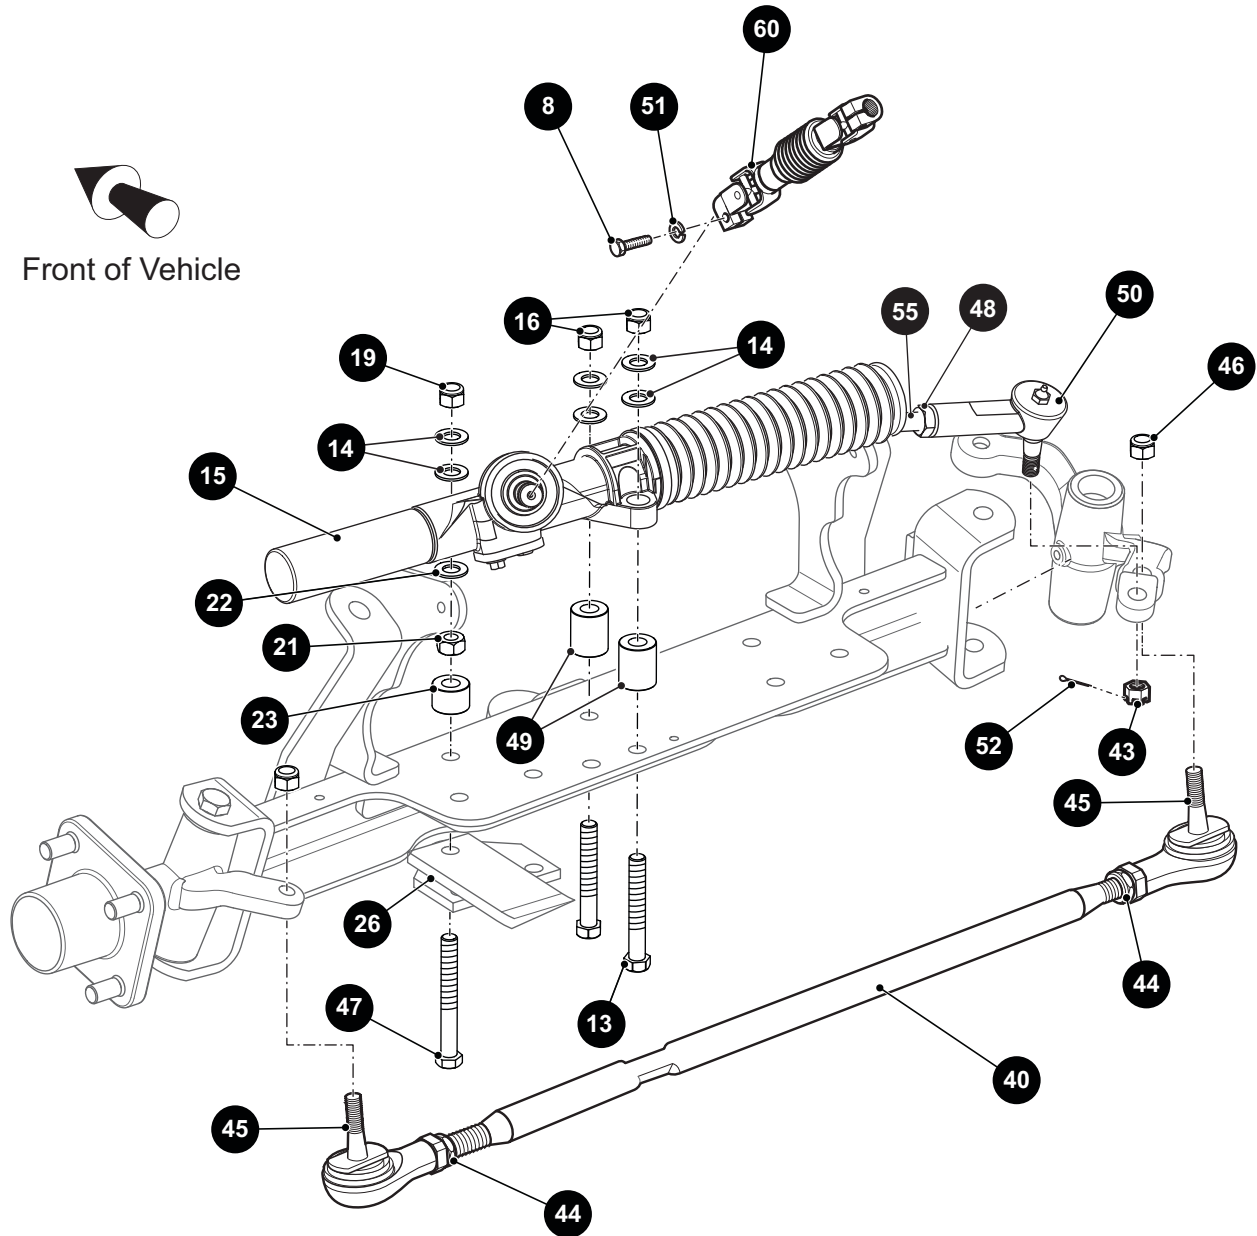
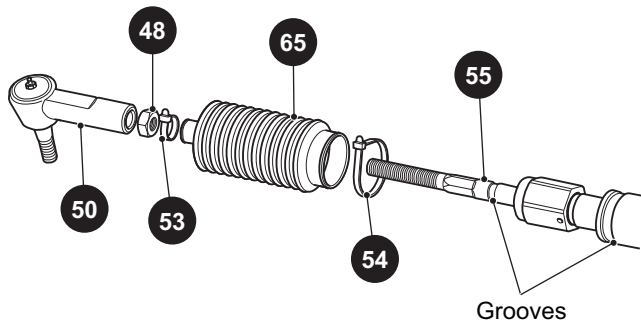

Figure 11 Steering Components
Figure 14 Bellows Replacement
- Remove the cotter pin (52) and loosen the castellated nut (43) until the rack ball joint (50) threads are protected (Ref. Figure 11).
- Remove the castellated nut (43) from the ball joint (50).
- Remove the ball joint (50) from the spindle arm.
- Cut away the wire ties (53, 54) from the bellows (65) and pull the bellows back to expose the threads on the rack extension (55) (Ref. Figure 14).
- Grasp the tie rod (40) at the ball joints (45) and check for any vertical motion which would indicate a worn condition and require replacement (Ref. Figure 11).
- Remove the rack ball joint (50) and jam nut (48) from the rack extension (55) (See Rack Ball Joint Replacement on page 31).
- Cut the wire ties (53, 54) and slide the bellows (65) off of the rack extension (Ref. Figure 14).
- Install a new bellows aligning the small end over the groove in the rack extension and secure it with a new wire tie (53).